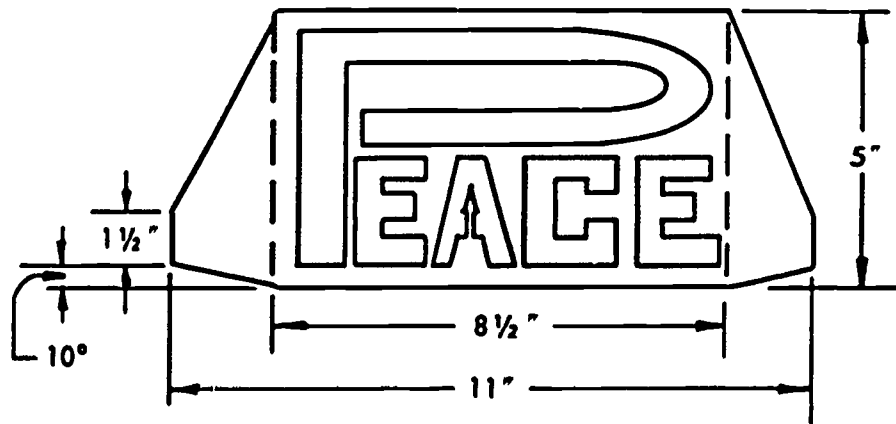

Fig. 61-3. Cut Out
- Drill three $\frac{3}{8}$ " holes for light sockets in a $\frac{3}{4}$ " x $1\frac{1}{2}$ " x $8\frac{3}{4}$ " piece of wood. See Figs. 61-3 and 61-4.